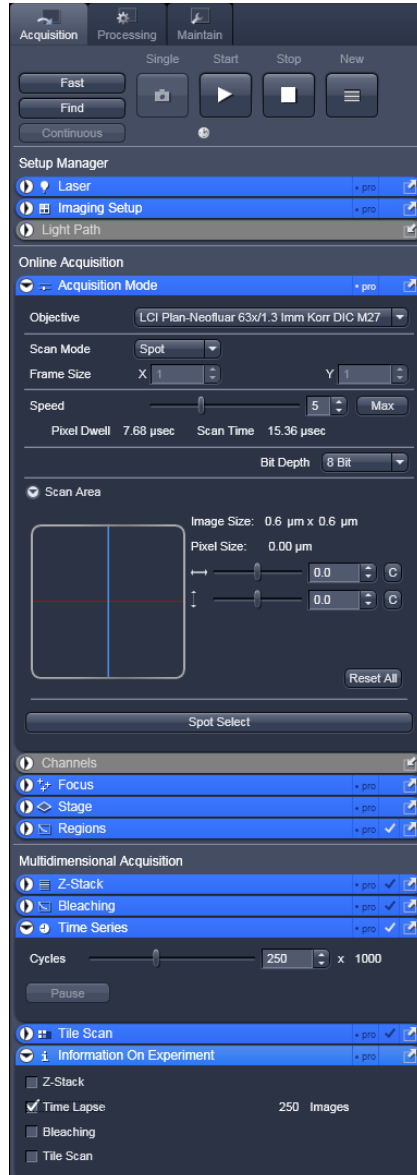

Fig. 2.12: Point Measurement Mode in the LSM software.
1. **LSM710/780/880 software:** Enable the “Spot” measurement mode (Fig. 2.12). Clicking on “Spot Sel” results in scanning of an image where you can select a position for your point measurement. The scanner only moves to the indicated position, when the time series measurement is started and moves back to the standby position after the measurement has stopped (Fig. 2.13). Of course, for checking the position, the light has to be guided to an internal detector.